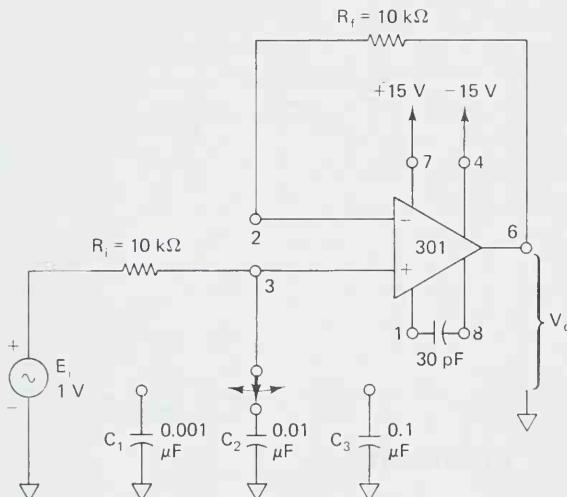

FIGURE LE11-1
- 11-1.** Refer to the low-pass filter shown in Fig. LE11-1 and measure all component values before building the network. Using the measured component values, calculate the cutoff frequencies. If you have access to a function generator with sweep capabilities, use it for E_i .
- 11-6.** Calculate the cutoff frequency for each value of C in Fig. LE11-1.